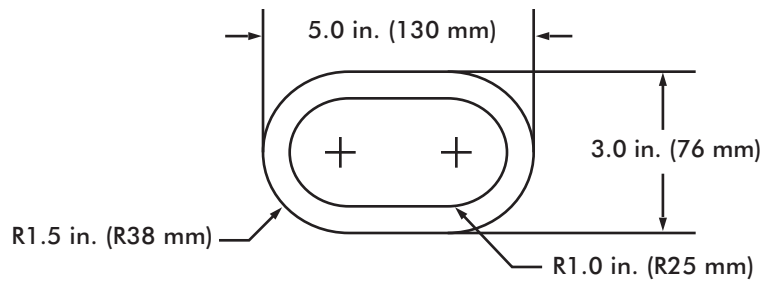
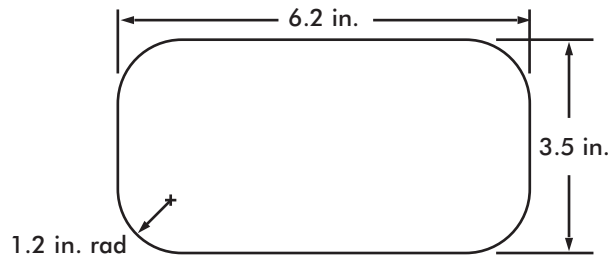

Figure B3. Toddler small torso template
Figure B4. Preschool- and school-age small torso template
The dimensions (see Figure B3 and Figure B4) of this template are based on the size of the torso of the smallest user at risk (5th percentile 6-month-old child for Figure B3 and 2-year-old child for Figure B4). If an opening is too small to admit the template, it is also too small to permit feet first entry by a child. Because children’s heads are larger than their torsos, an opening that does not admit the small torso template will also prevent head first entry into an opening by a child.
- Step 1: Select the appropriate small torso template based on the intended users of the playground (Figure B3 for toddler playgrounds, Figure B4 for preschool- and school-age playgrounds).
Step 1: Select the appropriate small torso template based on the intended users of the playground (Figure B3 for toddler playgrounds, Figure B4 for preschool-age and school-age playgrounds).
- Step 1: Select the appropriate small torso template based on the intended users of the playground (Figure B3 for toddler playgrounds, Figure B4 for preschool-age and school-age playgrounds).